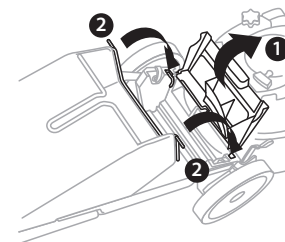

Fig. 9
1. Raise the rear discharge cover (1, Fig.9).
2. Attach the grass catcher by inserting its frame hooks onto slots in the rear of mower (2, Fig.9)